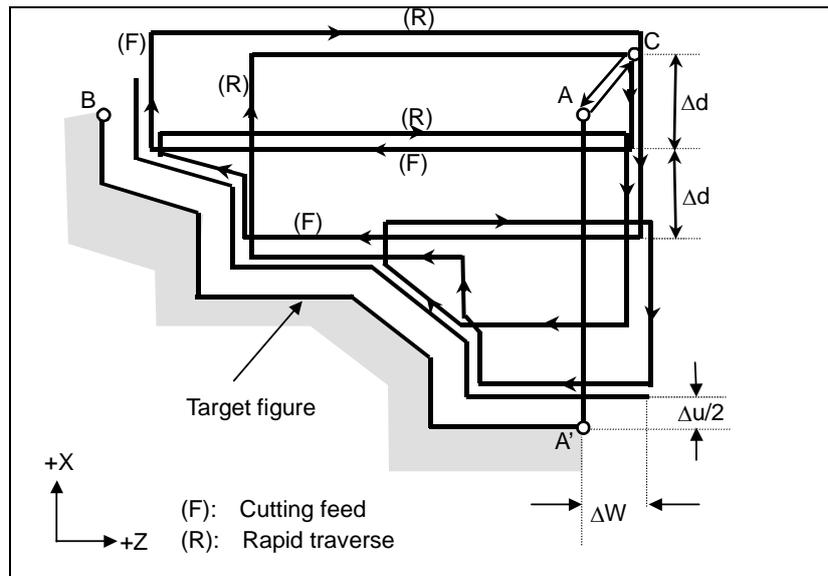

Fig. 7.1.1 (f) Cutting path in stock removal in turning (type II)
- (1) If the finishing allowance for rough cutting is not specified
The tool grinds by the depth of cut  $\Delta d$ , leaving the finishing allowances of  $\Delta u/2$  and  $\Delta w$ , and after grinding with the last cut (and after grinding the area of Pn to Pm in the Fig. 7.1.1 (f) because the area is parallel to the Z-axis and is, therefore, regarded as a single pocket), returns to the start point (A) and performs rough cutting as finishing in accordance with the target figure program, leaving the allowances of  $\Delta u/2$  and  $\Delta w$ .
- (2) If the finishing allowance for rough cutting is specified